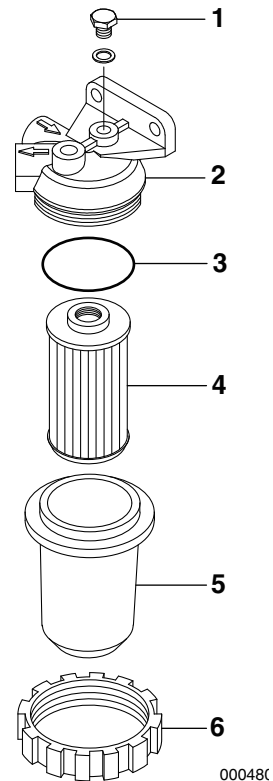

Figure 6
3. Loosen the retaining ring (**Figure 6, (6)**), remove the filter housing (**Figure 6, (5)**) and drain off any water or sediment collected inside.
4. After draining, tighten the air bleed screw (**Figure 6, (1)**).